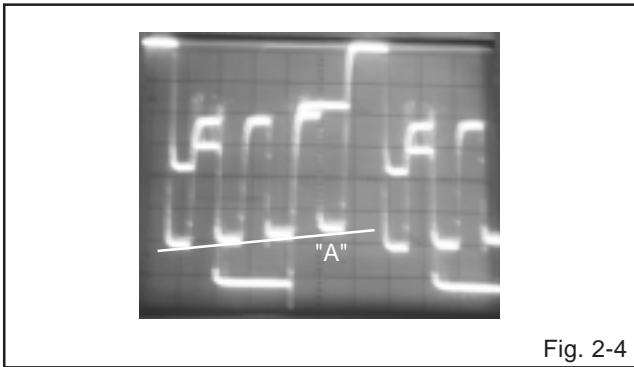

Fig. 2-4
12. Press the VOL. UP/DOWN button on the remote control until the section "A" becomes as straight line. **(Refer to Fig. 2-4)**